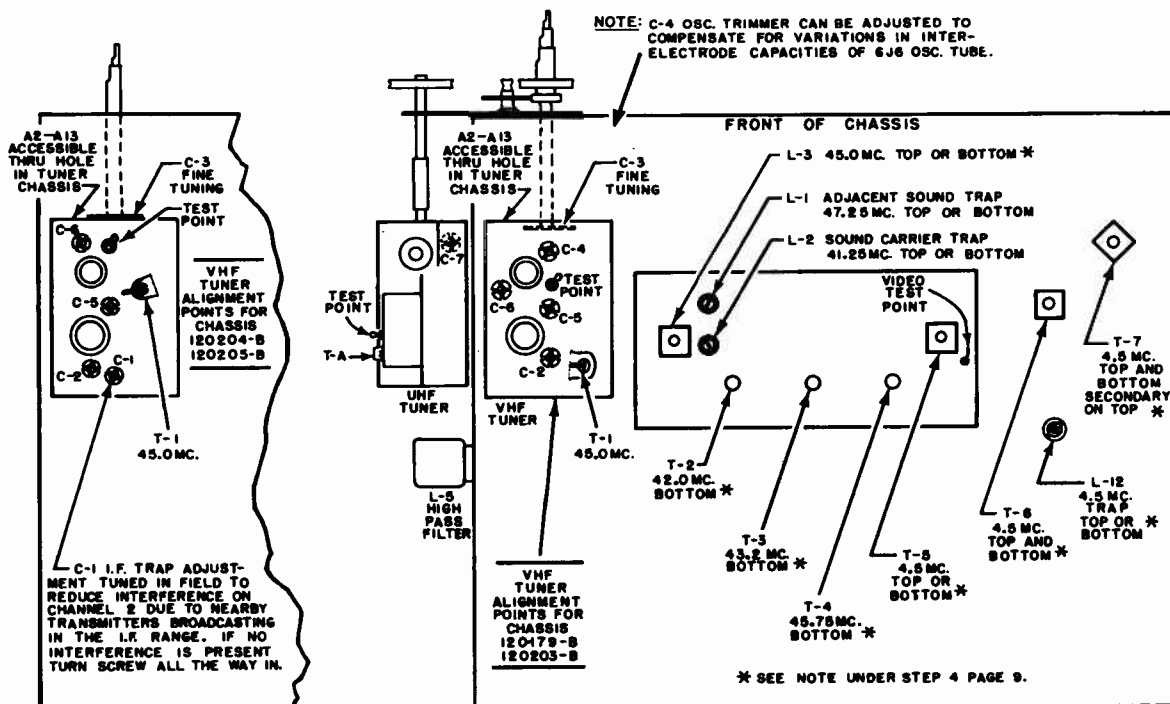

Figure 9. LOCATION OF ALIGNMENT POINTS (TOP VIEW)
- Alignment Points - The location of all I.F. transformers, Tuned Circuits, and trimmers shown in Figure 9.
The alignment of the tuner is factory set and will actually not require any additional adjustments other than to compensate for differences in 6J6 oscillator tubes. Because of this fact, the only adjustment to be made in the field is trimmer C-7 which is located next to the 6J6 oscillator tube. (See Figure 9)